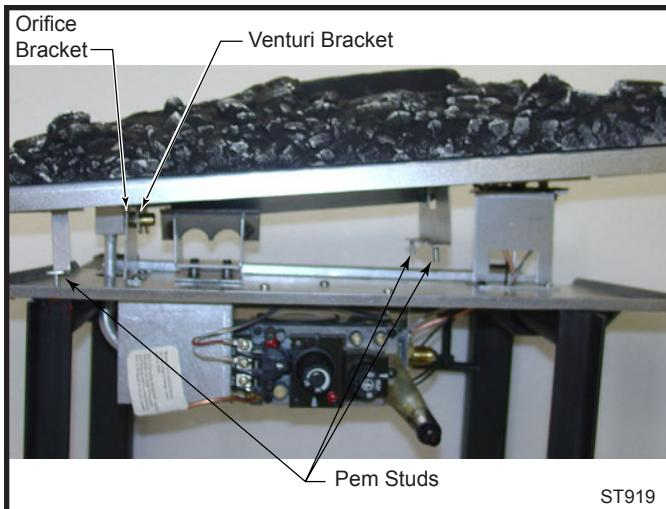

Fig. 80 Tilt ember bed slightly to correctly place on venturi and air shutter.
1. Replace burner making sure venturi on bottom of ember bed aligns with orifice and is seated properly on air shutter assembly. (Fig. 80) Make sure burner is slid into place at a slight angle and opposite to how it was removed. When burner is slid into place, the three (3) pem studs should slide down through clearance holes into the bottom of the control panel.